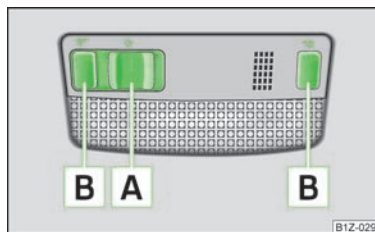

Fig. 29
- > Press switch  » Fig. 29 towards the edge of the light, the symbol  appears.